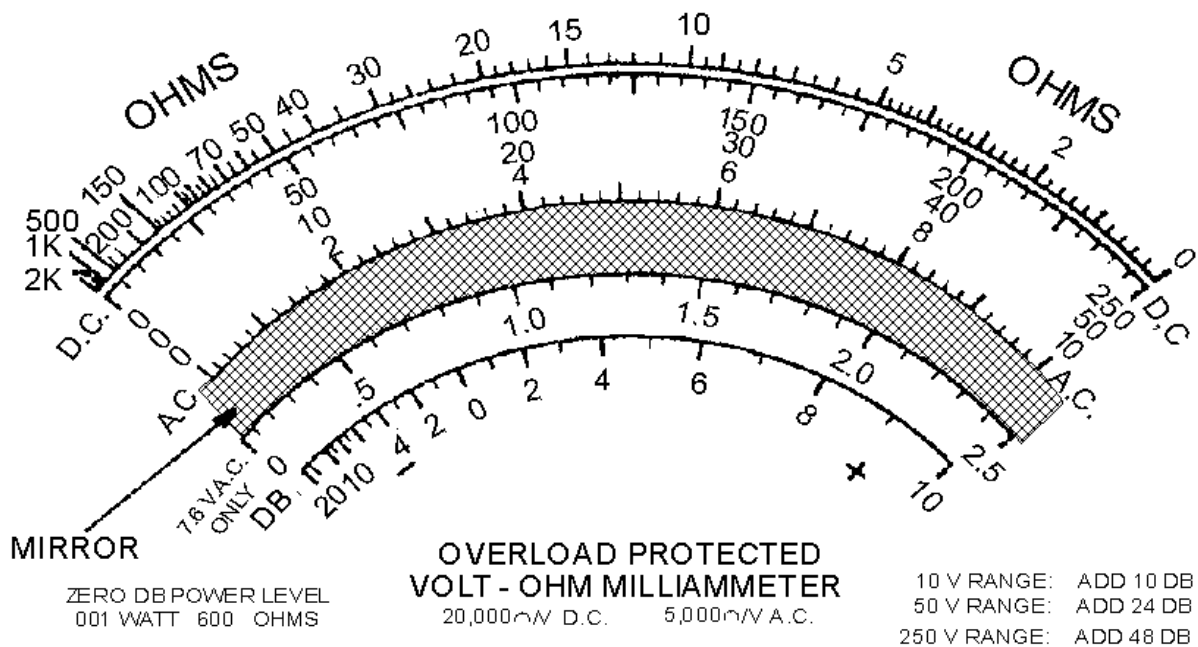
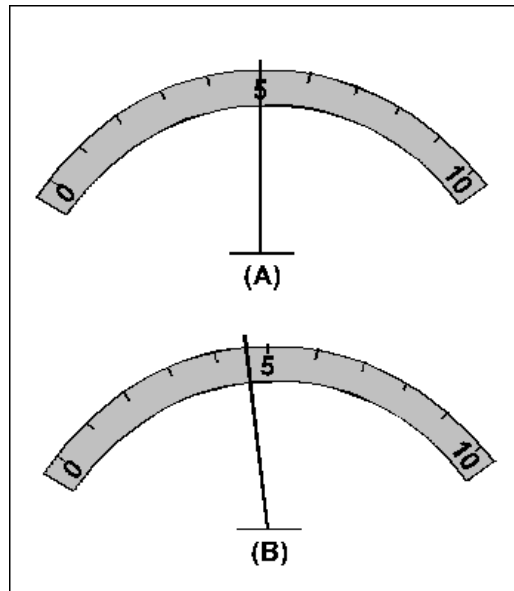
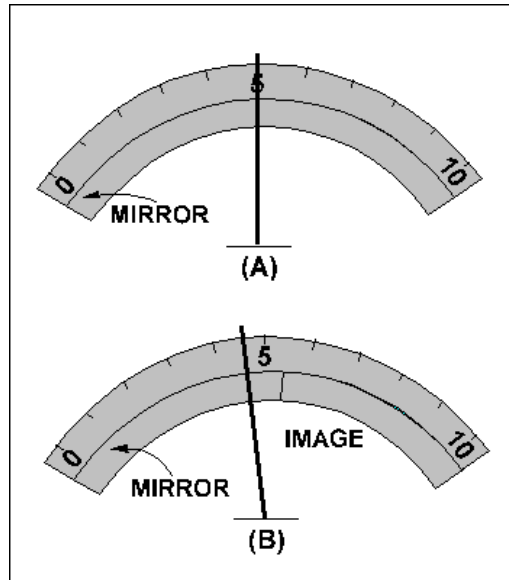

Figure 1-39.—A multimeter scale with mirror.
Figure 1-41.—A parallax error in a meter reading.
Figure 1-42.—A parallax error on a meter with a mirrored scale.
Most multimeters (and some other meters) have a mirror built into the scale. Figure 1-39 shows the arrangement of the scale and mirror.
Parallax can be a problem when you are reading a meter. Since the pointer is slightly above the scale (to allow the pointer to move freely), you must look straight at the pointer to have a correct meter reading. In other words, you must be in line with the pointer and the scale. Figure 1-41 shows the effect of parallax error.
Figure 1-41 (A) shows a meter viewed correctly. The meter reading is 5 units. Figure 1-41(B) shows the same meter as it would appear if you were to look at it from the right. The correct reading (5) appears to the right of the pointer because of parallax.
The mirror on the scale of a meter, shown in figure 1-39, helps get rid of parallax error. If there is any parallax, you will be able to see the image of the pointer in the mirror. If you are looking at the meter correctly (no parallax error) you will not be able to see the image of the pointer in the mirror because the image will be directly behind the pointer. Figure 1-42 shows how a mirror added to the meter in figure 1-41 shows parallax error. Figure 1-42(A) is a meter with an indication of 5 units. There is no parallax error in this reading and no image of the pointer is seen in the mirror. Figure 1-42(B) shows the same meter as viewed from the right. The parallax error is shown and the image of the pointer is shown in the mirror.